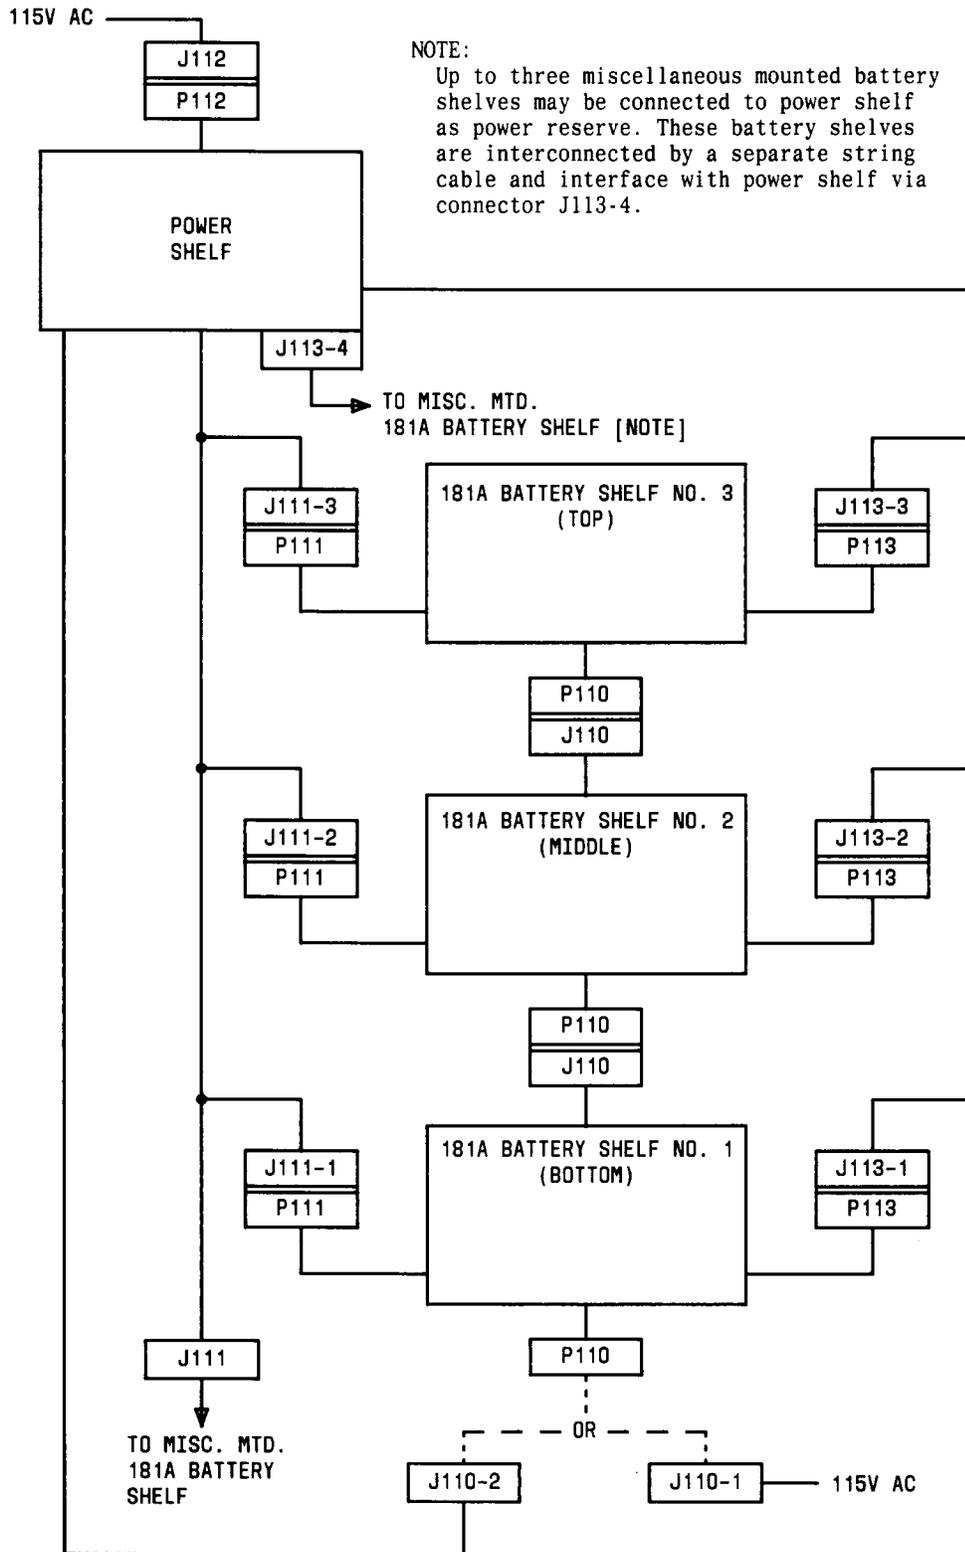

Fig. 3—Power and Battery Shelf Connectors
11. Verify that power shelf connectors are not connected to battery shelf lead connectors for battery shelves not equipped (Figure 3).